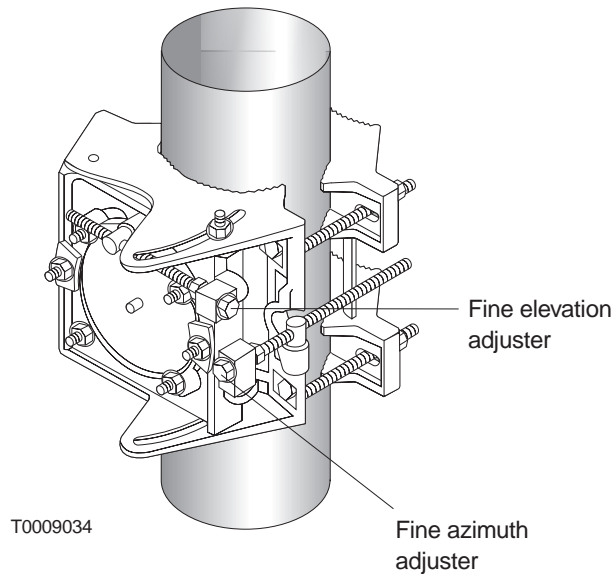

Figure 7-7 Fine azimuth adjuster and fine elevation adjuster
- a. Using a wrench, slowly rotate the fine azimuth adjuster (shown in figure 7-7).
- a. Using a wrench, slowly rotate the fine elevation adjuster (shown in figure 7-7).